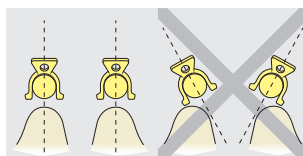

Fig. 4
- To prevent the lamellae being deactivated prematurely and ensure that the denture can be fitted and removed simultaneously, the bar riders must be positioned parallel to each other (Fig. 4).